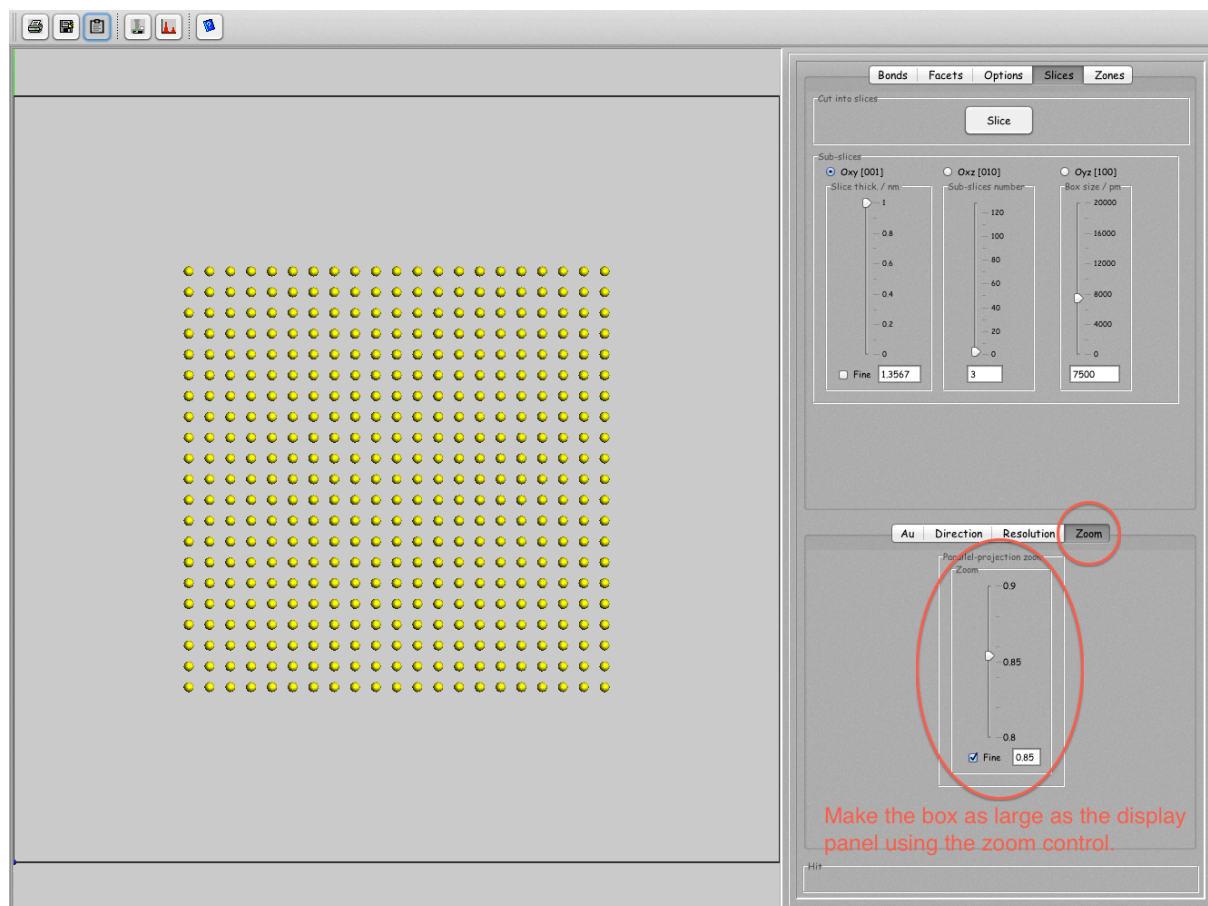

Figure 7: Use the *Zoom* slider to increase the model size until the model box is as large as the 3-D display area.
3. Select the *Zoom* slider to make the box as large as the 3-D display area (Fig. 7).
### 3.3 Making the model comparable to the HAADF, PP or WPOA images (Figure 7)